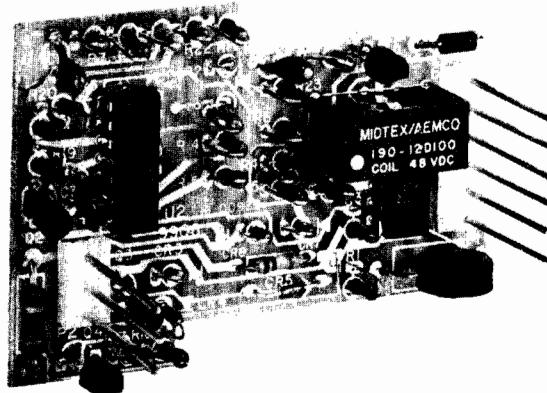

figure 1. 9906 Reverse Battery Adapter Subassembly
1.01 The Tellabs 9906 Reverse Battery Adapter Subassembly (figure 1) is designed to regenerate reverse battery signals from the office end of a trunk circuit toward the station end. Currently, the 9906 Adapter is used exclusively on the Tellabs 7503 Dial Long Line (DLL) module to extend the range of reverse battery supervision on long loop Foreign Exchange (FX) or Off-Premise-Extension (OPX) circuits.